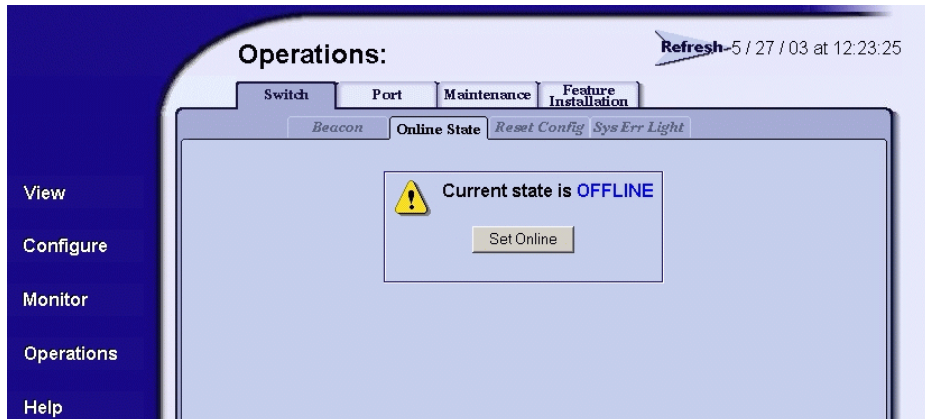

Figure 4-18 Operations Panel (Switch Page with Online State Tab)
2. Click the *Online State* tab. The *Switch* page displays with the *Online State* tab selected (Figure 4-18 on page 4-26).
2. Click the *Online State* tab. The *Switch* page displays with the *Online State* tab selected (Figure 4-18).